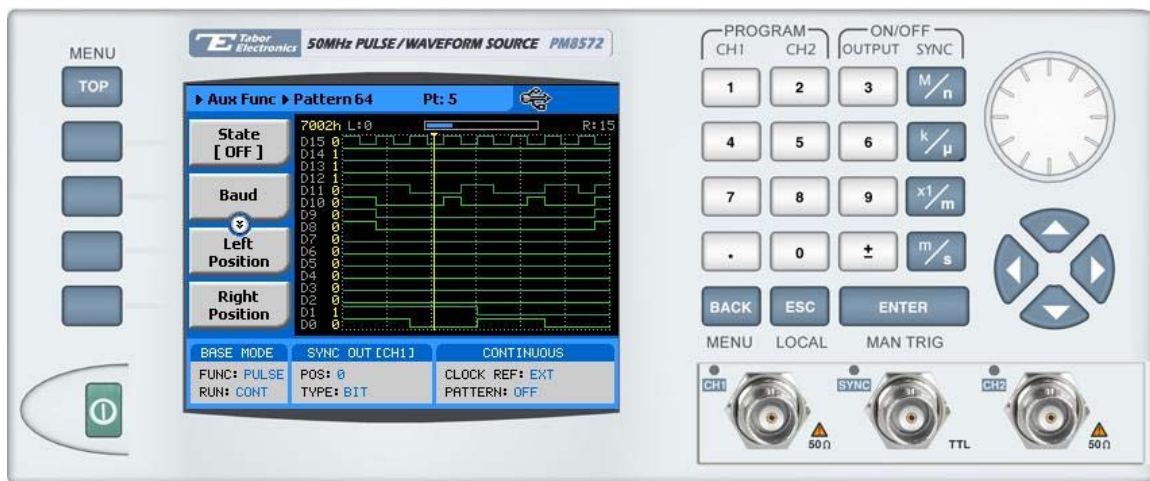

Figure 3-87, the Digital Pattern Menus
3. Press the Auxiliary Functions soft key and scroll down to highlight the Digital Pattern option, as shown in Figure 3-87.
4. Press the Enter button to select the digital pattern function. Figure 3-87 shows the digital pattern panel and its menus.